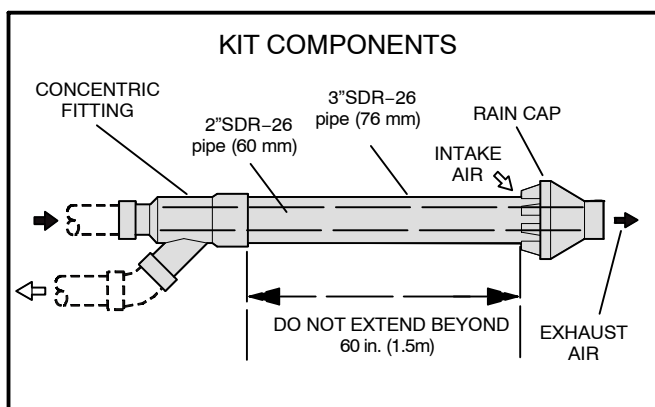

FIGURE 1
- 3 – Use proper joint cementing procedure to join concentric fitting and 3-inch (76 mm) diameter pipe provided in kit. Cement rain cap to 2-inch (60 mm) diameter pipe provided. See figure 1 for component identification.
Concentric vent termination air inlet must extend a minimum of 12 inches (305 mm) above the average snow accumulation. If necessary, replace kit-supplied SDR-26 PVC (D2241) pipes with longer pipes of the same diameter. Do not extend length beyond dimension given in figure 1.
If the termination assembly must be lengthened to accommodate thickness of the side wall, replace kit-supplied SDR-26 PVC (D2241) pipes with longer pipes of the same diameter. Do not extend length beyond dimension given in figure 1.